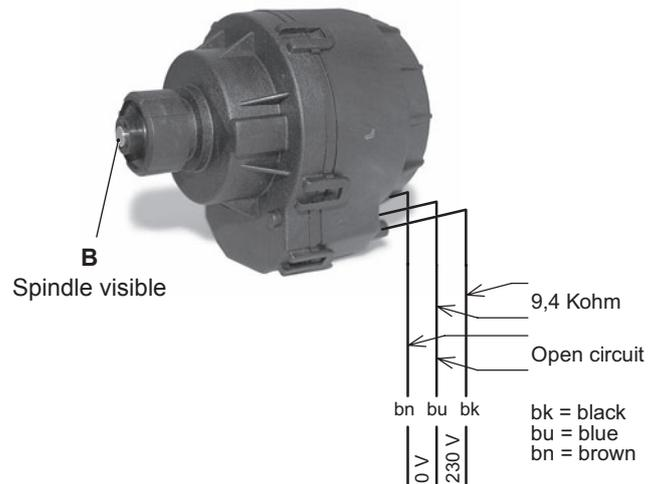

Figure 9.2 D.h.w. mode
Figure 9.2 indicates the relationship between the electric command coming from the electronic control p.c.b. and the position of the actuator B (brass spindle) when the boiler operates in **d.h.w. mode**.
- 3 Remove the fixing spring D and remove the actuator B. Reassemble the actuator carrying out the removal operations in the reverse order. When reassembling the actuator, refer to Figure 9.2 or to the wiring diagram in section "Checks" page 18 for the correct wiring connection.